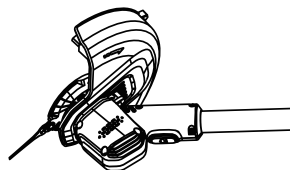

Fig. 10-2
- b. Release the button and make sure the trimmer head is secured in place. (Fig. 10-2)